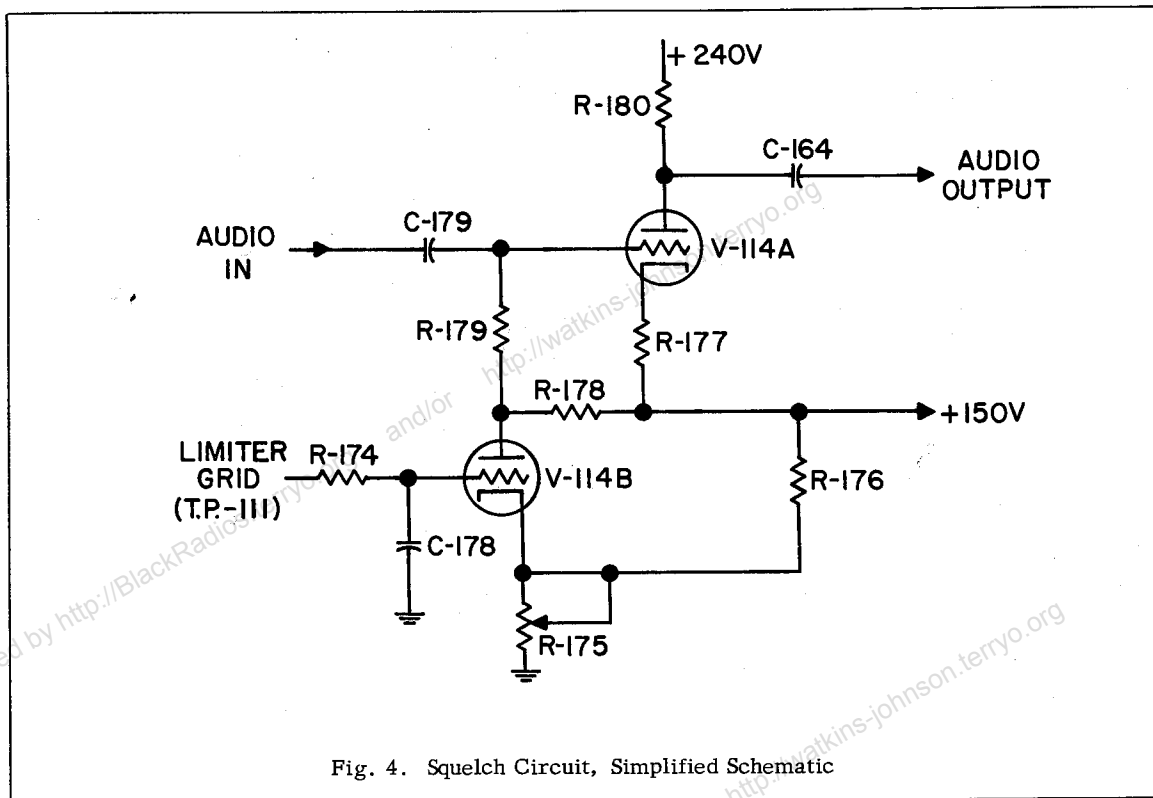

Fig. 4. Squelch Circuit, Simplified Schematic
8. Squelch circuit. Included in only the Model J-2 receiver, the squelch circuit is best described with the aid of the simplified schematic shown in Fig. 4.